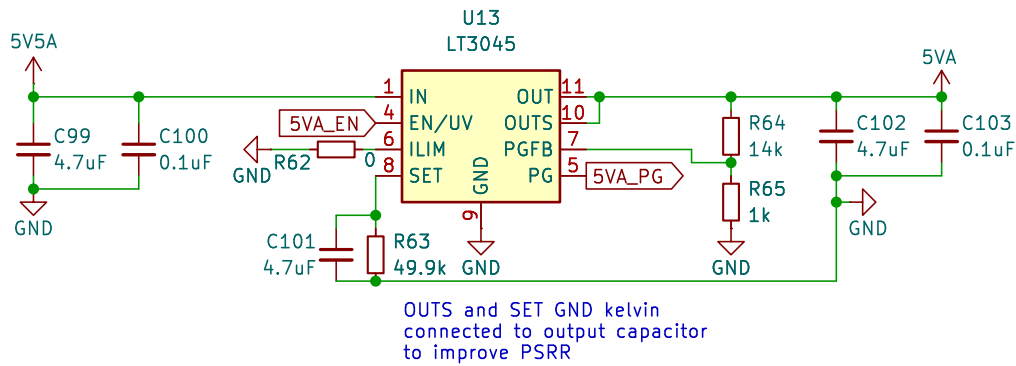

Figure 8: Analog 5 V LDO Circuit
Figure 8 shows the schematic of the analog 5 V regulator. Aside from the different resistor values used for setting the output voltage and the power-good feedback network, all LDO circuits follow the same layout. Each device's Enable (EN) and Power-Good (PG) pins are connected back to the Zynq SoC for centralized sequencing and fault monitoring.